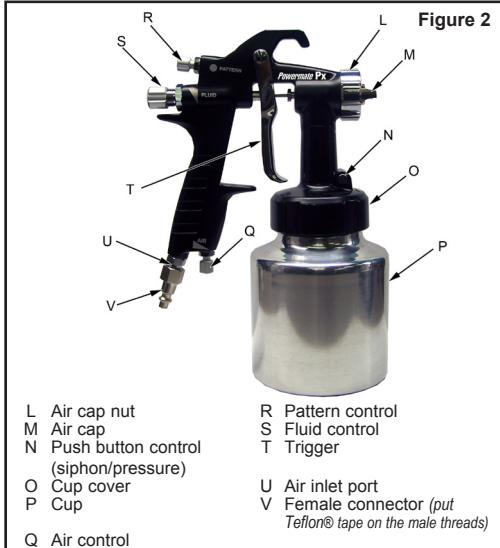

Figure 2
2. Install a 1/4" NPT female connector (not included) onto the air inlet port on the tool (see Figure 2). **Note: Use Teflon® Tape on all threaded connections.**
- Pattern control knob (see Figure 2) - for a full pattern, turn the knob in a counterclockwise direction and for a round pattern, turn the knob clockwise. This knob is used to create the proper pattern of paint as it is sprayed from the spray gun.
- Fluid control knob (see Figure 2) - turn in a clockwise direction to reduce the amount of paint and counterclockwise to increase the amount of paint. This knob controls the amount of paint that is mixed with the air. **NOTE: If the fluid control knob is turned in all the way, the gun will emit only air.**